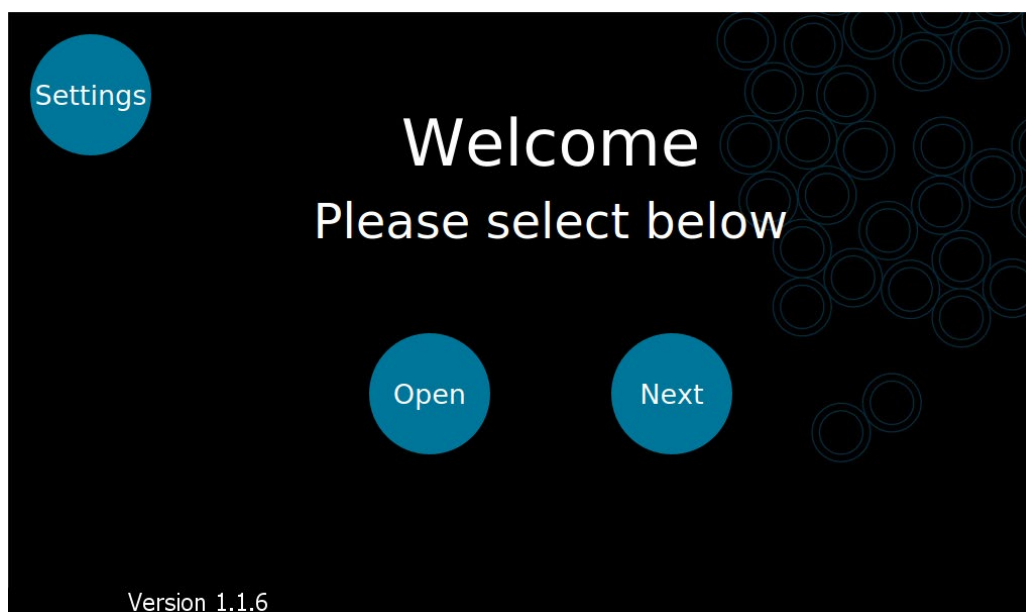

Fig. 5.7. The Xdrop™ instrument “welcome screen”. Press open to eject the drawer.
1. Press “Open” on the Xdrop™ instrument touch screen to eject the drawer (Fig. 5.7).